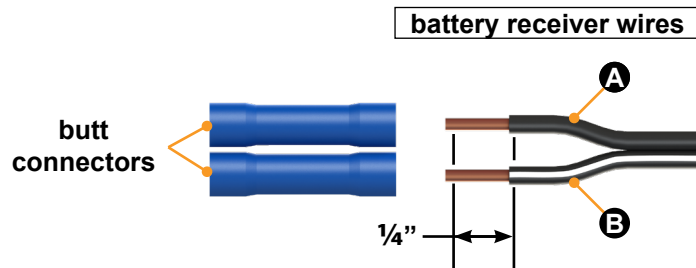

Fig.25
- E. Use a crimping tool to crimp each butt connector's metal sleeve (green crimp area) onto the bare wire (Fig.25).
B. Start at one canvas corner and tightly pull and wrap the securing strap around the bimini top strut and snap in-place (Fig.25). Repeat procedure as necessary for each securing strap.